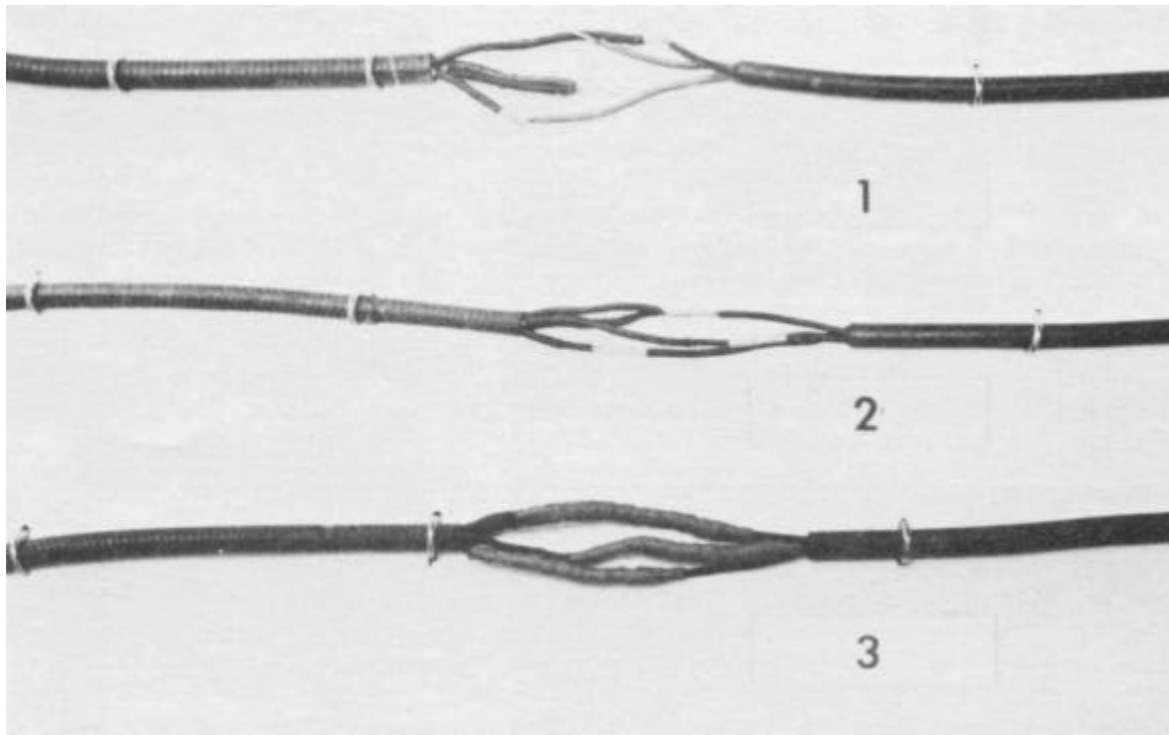

Figure B-1. Interior Stages of Splice. (Photo by WES)
Step 1. Remove the cable sheath on the lead to be added and on the lead attached to the instrument for 4 in. and stagger the individual conductors by 1-in. lengths as shown in view 1 on Figure B-1 so that the finished conductor splices will not overlap. In removing the sheath take care not to cut or otherwise damage the insulation on the conductors.
Step 5. Connect the conductors by sweating on telephone connectors or soldering sleeves as in view 2 of Figure B-1.
Step 8. After the cement has become tacky, wrap each individual conductor with a single layer of half-lapped prevulcanized gray insulating rubber (Joy Manufacturing Co. No. 319776), lapping well over the original insulation at each end of the wire splice. Cover with one layer of rubber tape to hold the insulating rubber in place as in view 3 of Figure B-1.